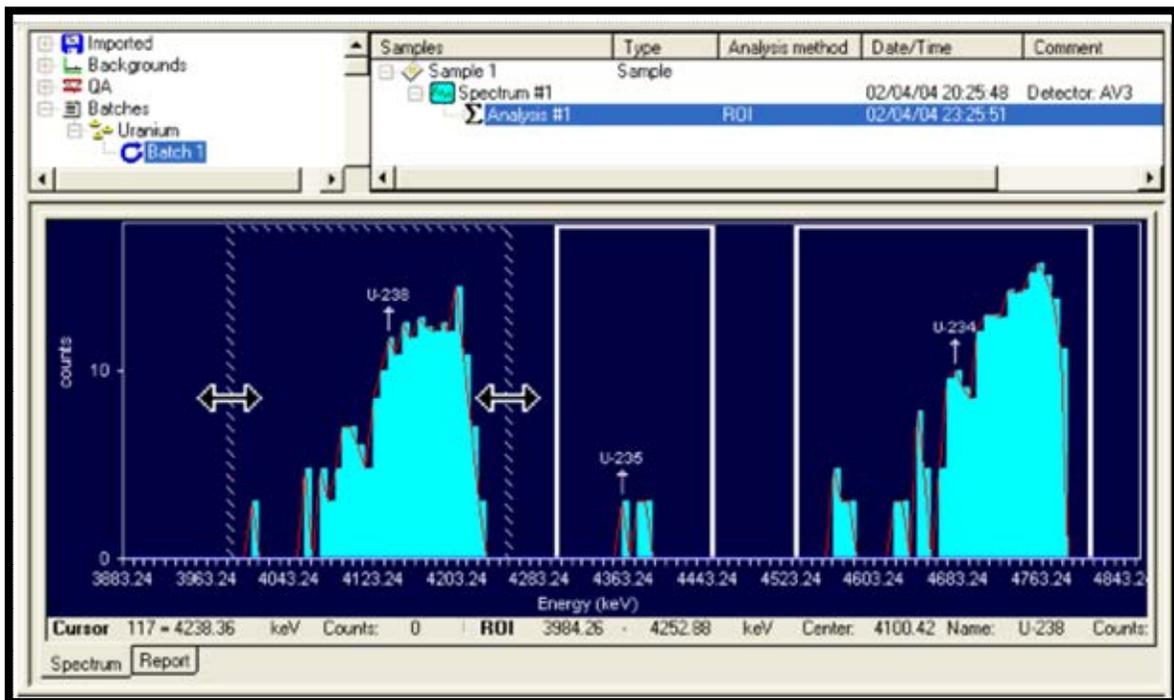

Figure 138. Click and Drag the Two-Sided Arrow to Adjust the Low- and High-Channel ROI Boundaries. Status Line Will Update to New ROI Boundaries
- 2) In the Spectrum Window, zoom in as necessary to accurately change ROI boundaries and centroids. Click inside the first ROI to be adjusted to activate it. The active ROI has a *dashed border* and inactive ROIs have *solid borders*, as shown in Figure 138.